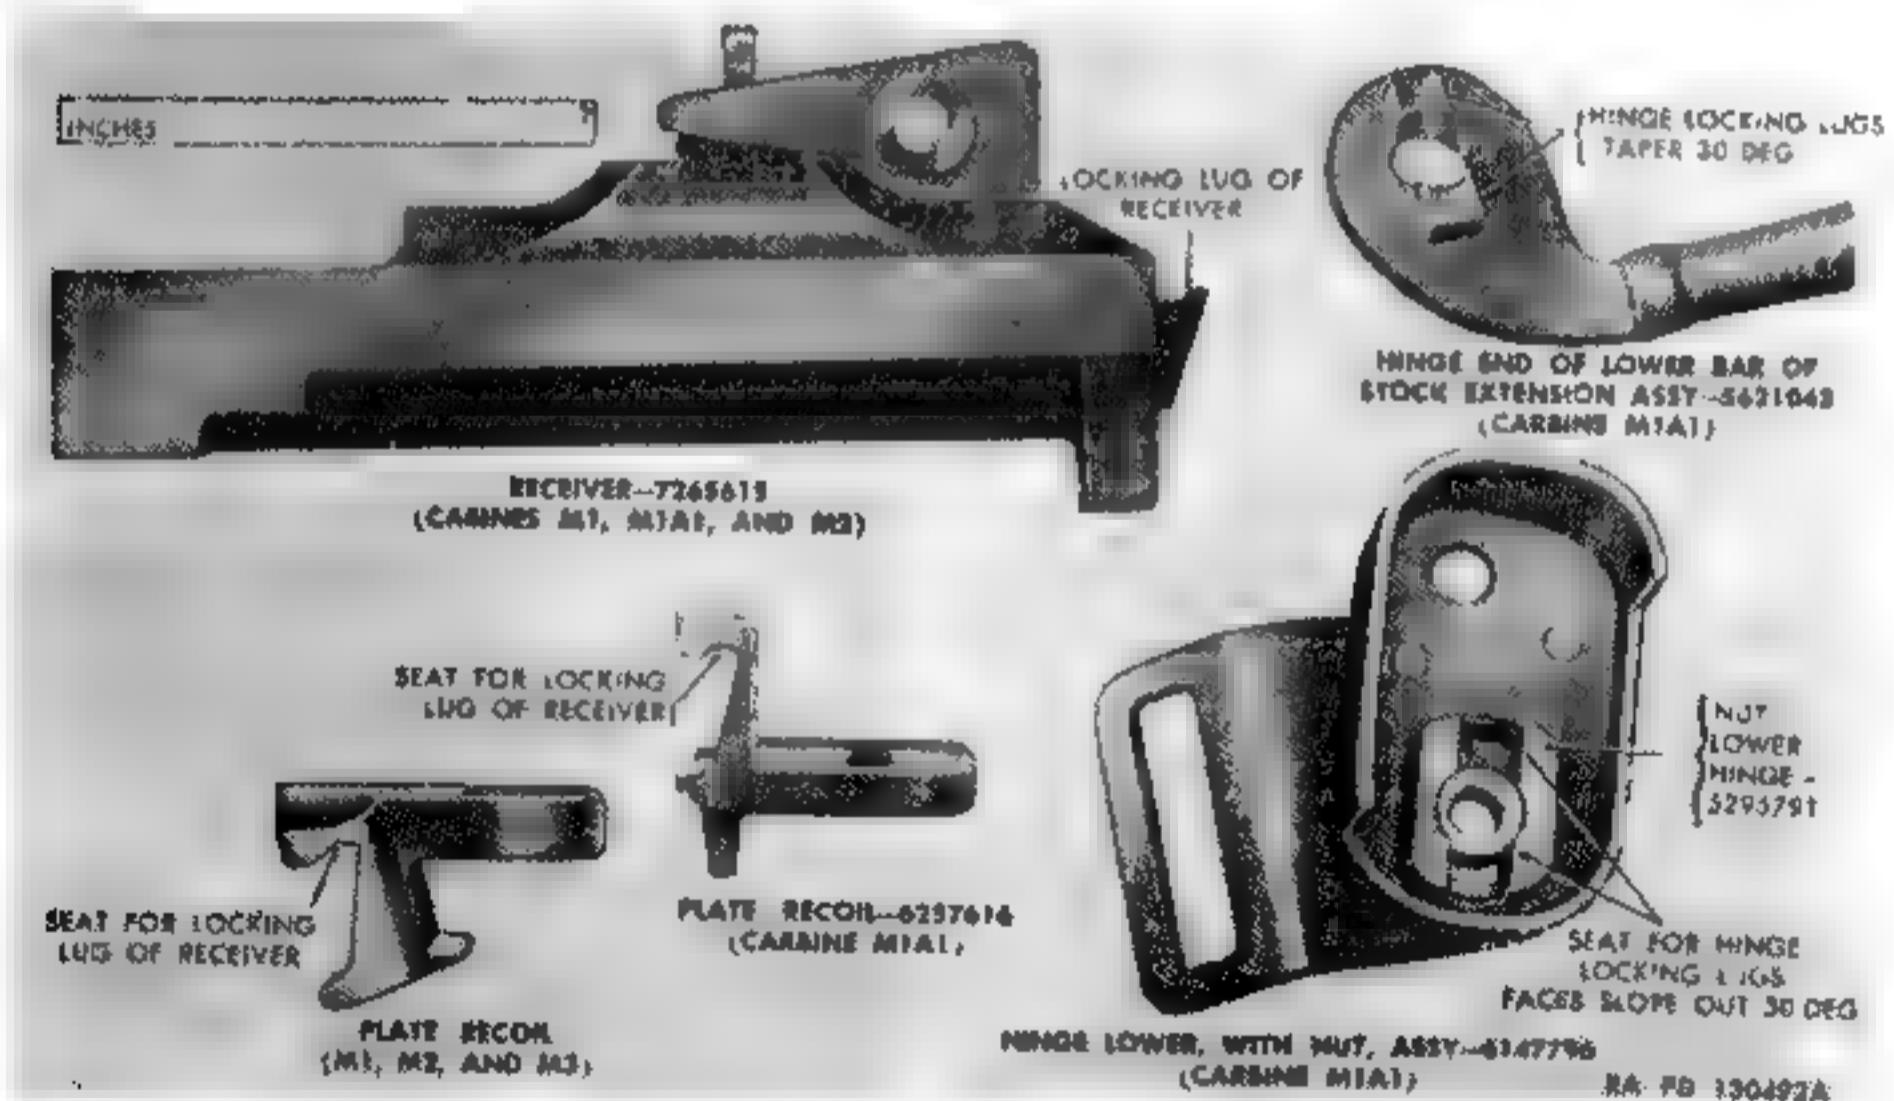

Figure 104. Important wearing surfaces.
a Recoil Plate. Check to assure that recoil plate is free from burrs, excessive wear (Fig. 104) and rust, and that it is properly bedded in stock. Where recoil plate is bedded so deeply in stock that it interferes with proper alignment of action, the stock must be rejected. The recoil plate screw escutcheon should not turn in the stock, have burrs, or worn threads. The screw should be tightened firmly.
f. Inspect receiver locking lug seat in recoil plate for wear and burrs (Fig. 104). When assembling, the locking lug on receiver should cam smoothly into the seat and be held there snugly without play or shake.
4. Inspect locking nut for looseness in lower hinge shell. Inspect shell for deformation. Inspect sling eyelet for looseness on hinge shell (Fig. 104). (Nut is staked or spot-welded in shell and eyelet spot-welded to shell.) Check locking slot in nut for wear and burrs (angle of slot face is 30 degrees). Inspect lower hinge screw for wear and inspect threads in grip for stripping.
l. Inspect hinge on upper bar for deformation and cracked welding and lock on corresponding end of lower bar for deformation, cracked welding, and worn locking lug (Fig. 104). The proper mating of lock and nut determine the rigidity of the stock extension when extended or folded. Angle of lock faces should correspond to that of the nut. Wear of lock or nut will cause looseness and improper locking.